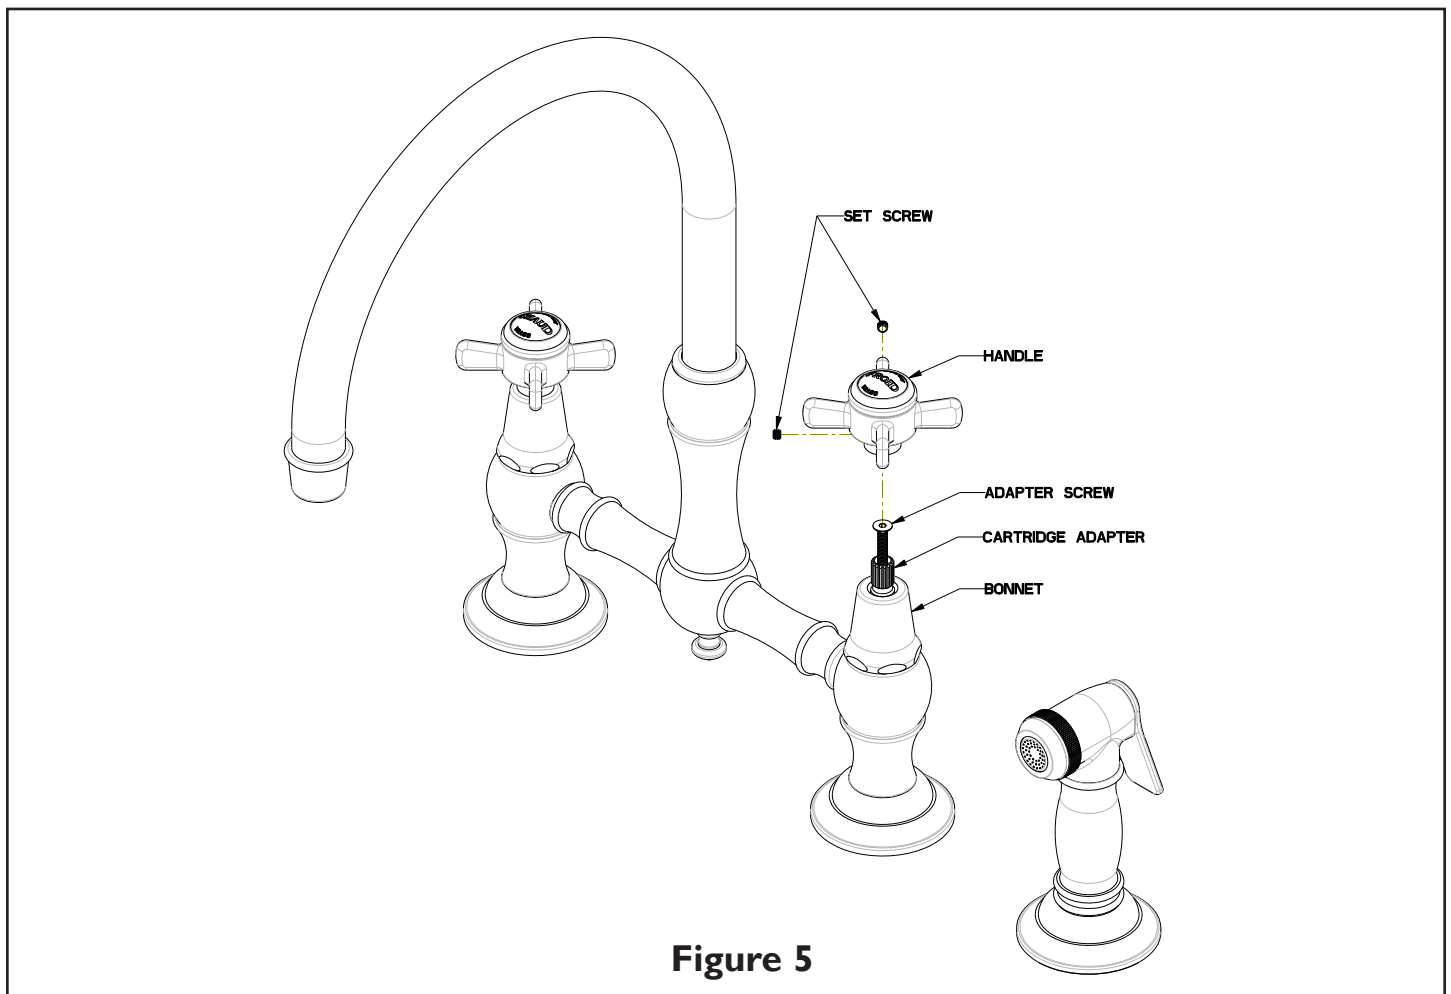

Figure 5
1. In **Figure 5**, ensure cartridges in full closed position and check HANDLE alignment. If the HANDLE is not correctly aligned, temporary remove the HANDLE, loosen up (but do not completely remove) the ADAPTER SCREW and rotate CARTRIDGE ADAPTER one tooth clockwise (18 degrees), reassemble the HANDLE and recheck alignment. Repeat until the HANDLE is aligned.